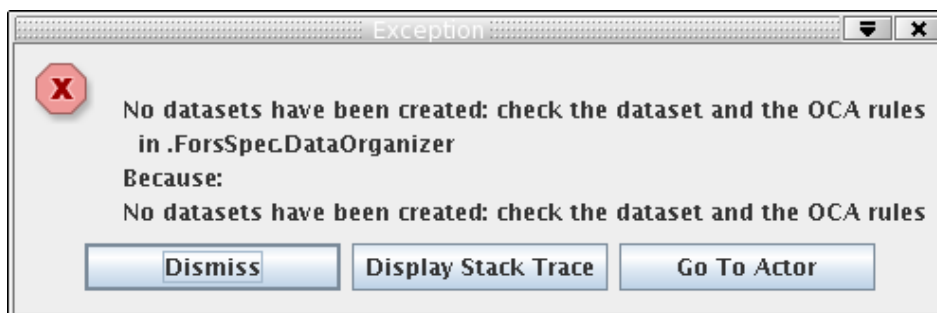

Figure 11.1: *TheDataOrganizer* interactive window reports an error “:No DataSets have been created, check the data set and the OCA rules.”.
**(b) it fails with error message “:No DataSets have been created, check the data set and the OCA rules.”(see Figure 11.1.)**